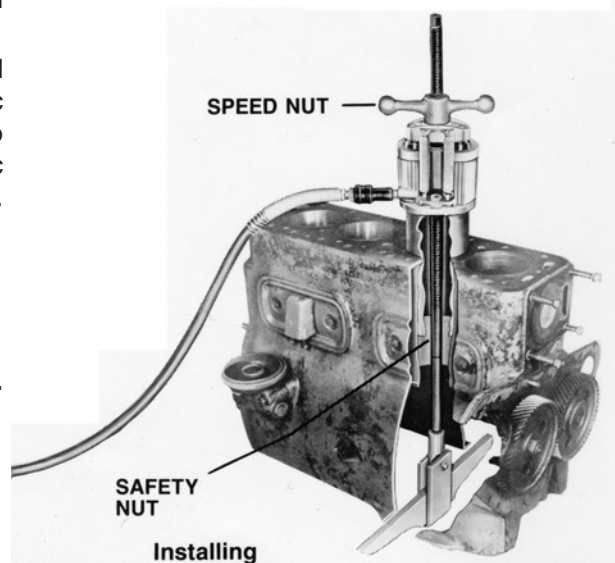

Figure 6
3. Remove the threaded insert from the hydraulic cylinder, and replace it with the smooth insert (Item 14). Place the hydraulic cylinder on the adapter plate (not included) located on top of the sleeve. Insert the pulling screw through the hydraulic cylinder, and take up any slack with the speed nut (Item 15). See Figure 6.